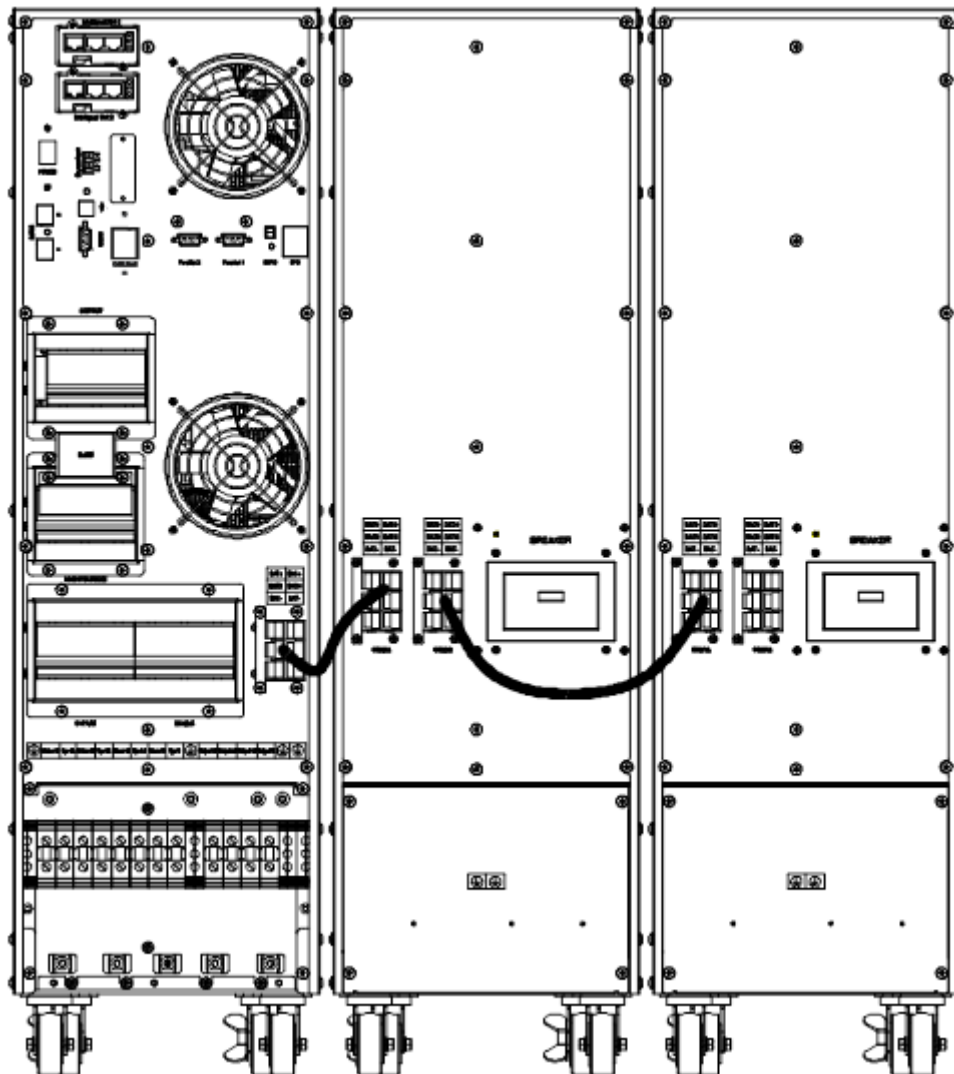

Figure 3-19: 10kVA, 15 kVA and 20kVA Battery Connection
1. Install and wire the UPS system as shown in Figure 3-19.